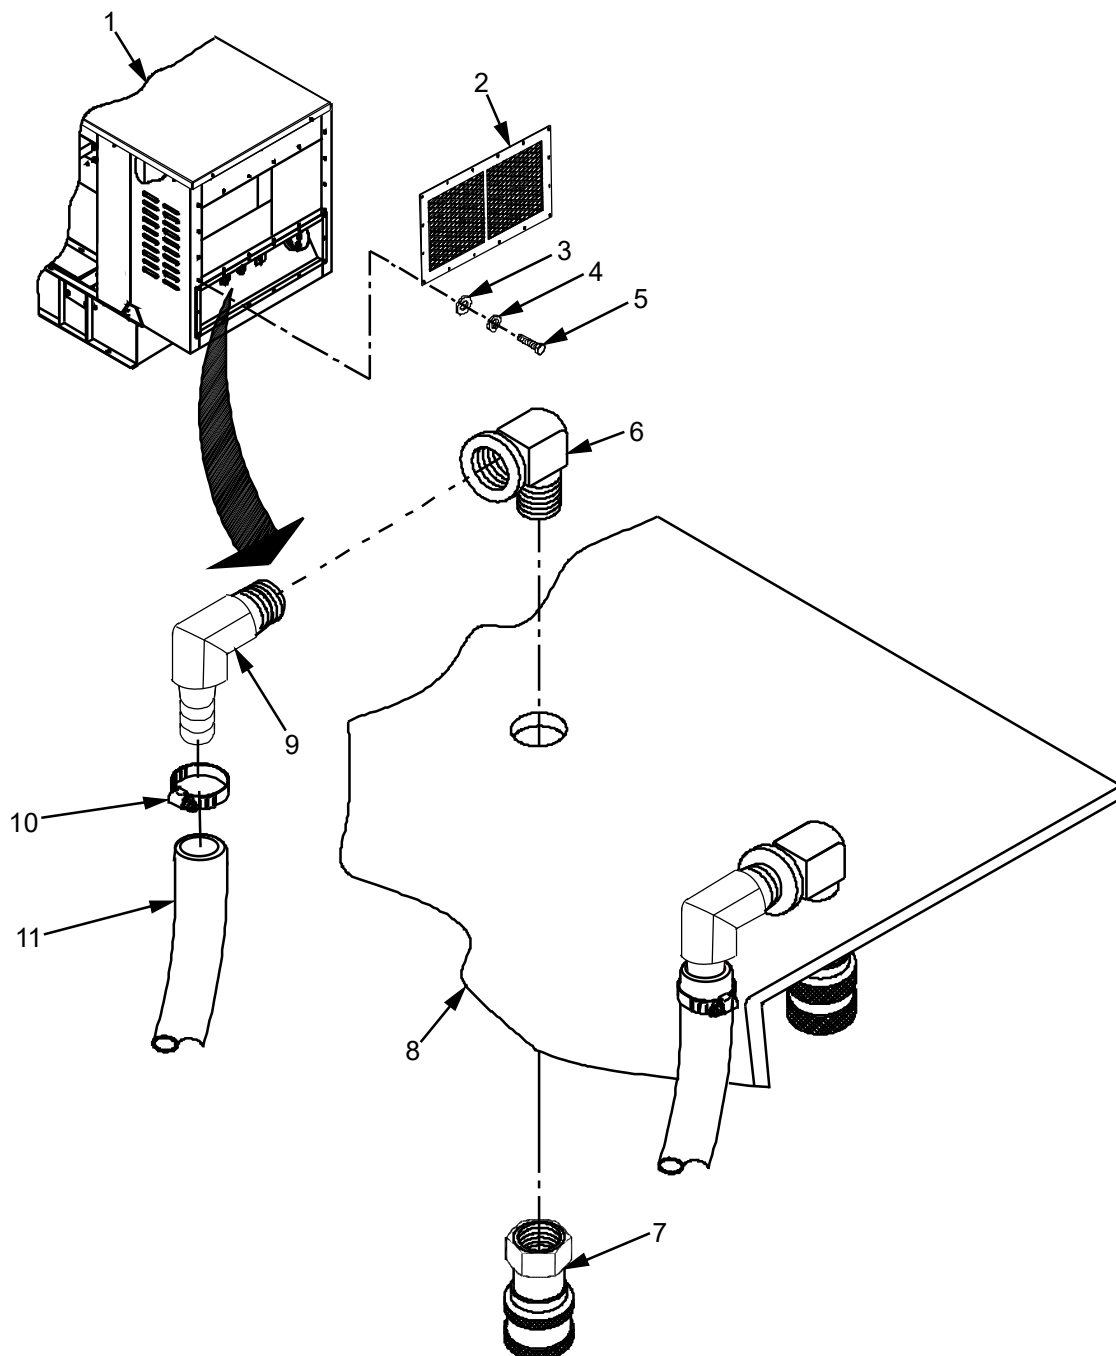

Figure 3. Auxiliary Fuel Port Removal/Replacement.
3. Verify that hoses have been disconnected from auxiliary fuel port(s) (Figure 3, Item 7).
4. Remove and retain sixteen bolts (Figure 3, Item 5) lock washers (Figure 3, Item 4), and flat washers (Figure 3, Item 3) that secure radiator access panel (Figure 3, Item 2) to Genset (Figure 3, Item 1). Remove radiator access panel (Figure 3, Item 2).
5. Loosen clamp (Figure 3, Item 10) that secures input/output hose (Figure 3, Item 11) to adapter (Figure 3, Item 9).
6. Remove input/output hose (Figure 3, Item 11) from adapter (Figure 3, Item 9) and set aside (if necessary place in small container to collect residual fuel).
7. Remove adapter (Figure 3, Item 9) and 90° elbow (Figure 3, Item 6) from auxiliary fuel port (Figure 3, Item 7) being replaced.
8. Remove auxiliary fuel port (Figure 3, Item 7) from Z-panel (Figure 3, Item 8).
1. Insert auxiliary fuel port (Figure 3, Item 7) through Z-panel (Figure 3, Item 8) and secure using 90° elbow (Figure 3, Item 6).
2. Install adapter (Figure 3, Item 9) onto 90° elbow (Figure 3, Item 6).
3. Inspect input/output hoses (Figure 3, Item 11) and replace as necessary.
4. Insert input/output hoses (Figure 3, Item 11) onto adapter (Figure 3, Item 9) and tighten clamp (Figure 3, Item 10).
5. Install radiator access panel (Figure 3, Item 2) onto Genset (Figure 3, Item 1) and secure using sixteen bolts (Figure 3, Item 5) lock washers (Figure 3, Item 4), and flat washers (Figure 3, Item 3).